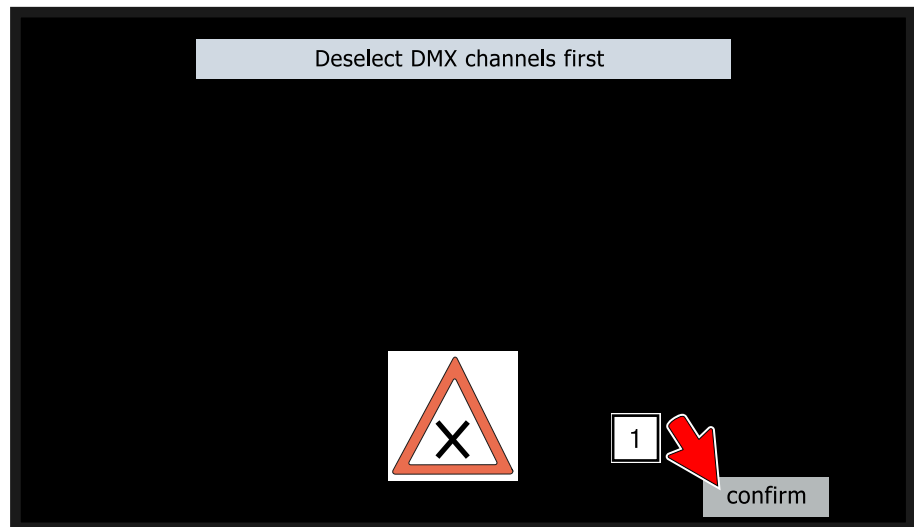

Fig. 51: Error display for active DMX channels
4. If DMX channels are already active, an error message “Deselect DMX channels first” will appear as shown in Fig. 51.